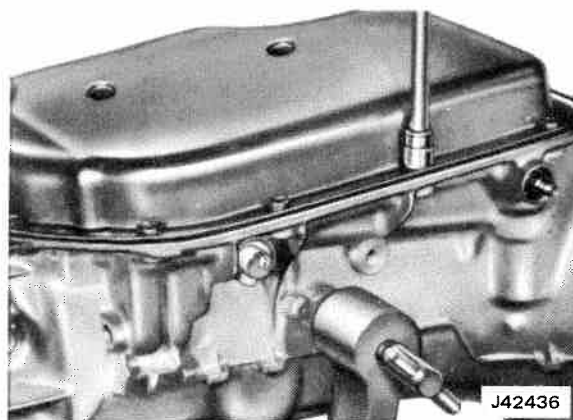
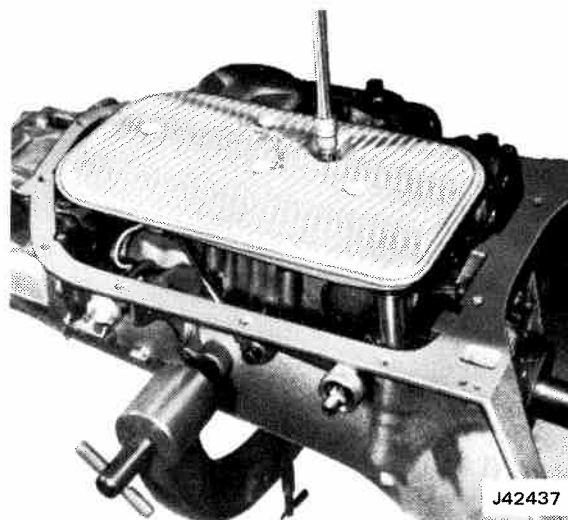

Fig. 7-6 Removing Transmission Oil Pan
Fig. 7-7 Removing or Installing Oil Filter
- (2) Withdraw governor assembly from case.
- (3) Remove bottom pan and gasket from transmission case. Discard gasket, (fig. 7-6).
- (4) Remove oil filter retainer bolt.
- (5) Remove oil filter assembly from transmission case (fig. 7-7).
- (6) Remove intake pipe-to-case O-ring from intake pipe or case. Discard O-ring.